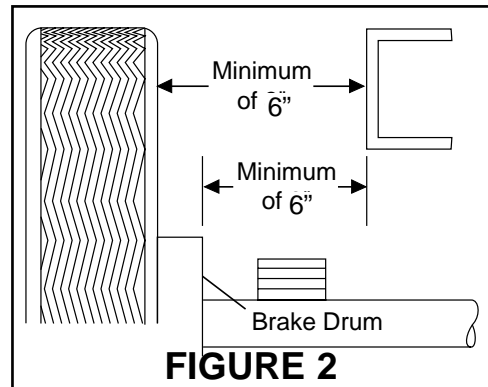

FIGURE 2
1. **Note:** Before proceeding with installation, measure opening from frame rail to brake drum or the tire, which ever is closest to frame. The measurement must be a minimum of 6 inches (Figure 2). If spacing is OK, remove rear wheels and support frame with safety stands.